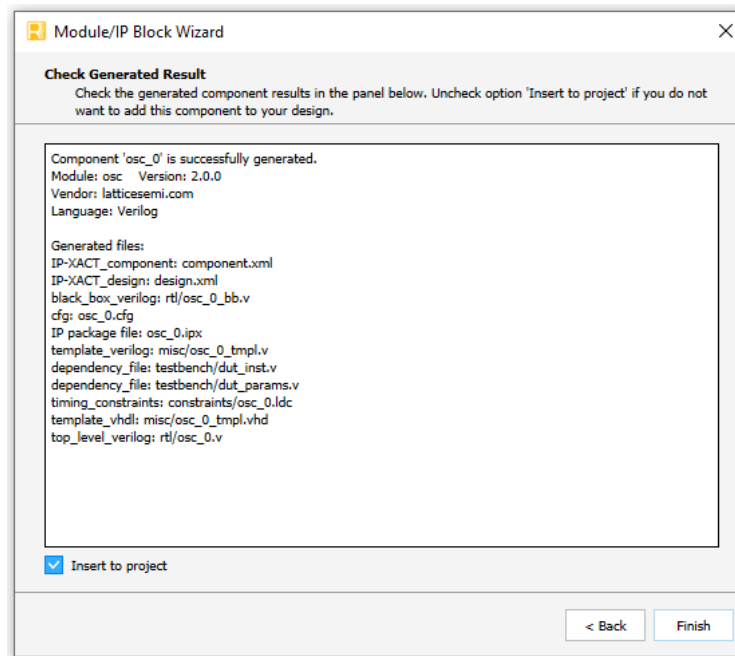

Figure 3.3. Check Generating Result
- Click **Generate**. The **Check Generating Result** dialog box opens, showing design block messages and results as shown in Figure 3.3.